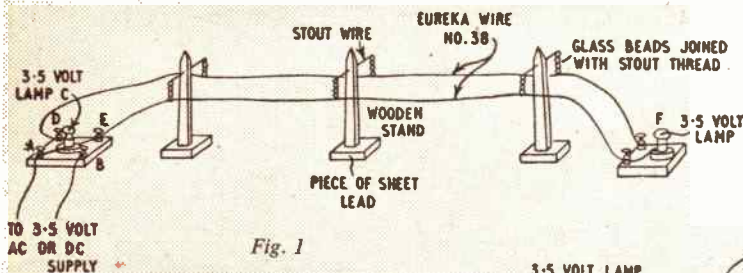

Fig. 1
Using the apparatus illustrated in Fig. 1, the terminals (A) and (B) should